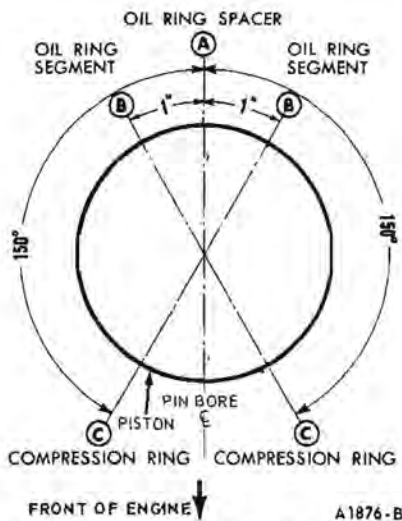

FIG. 43—Piston Ring Spacing
3. Make sure the ring gaps are properly spaced around the circumference of the piston (Fig. 43).